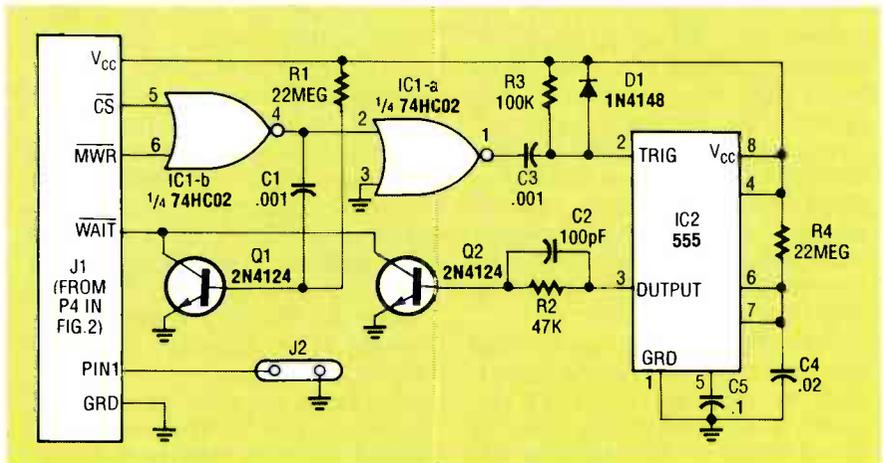
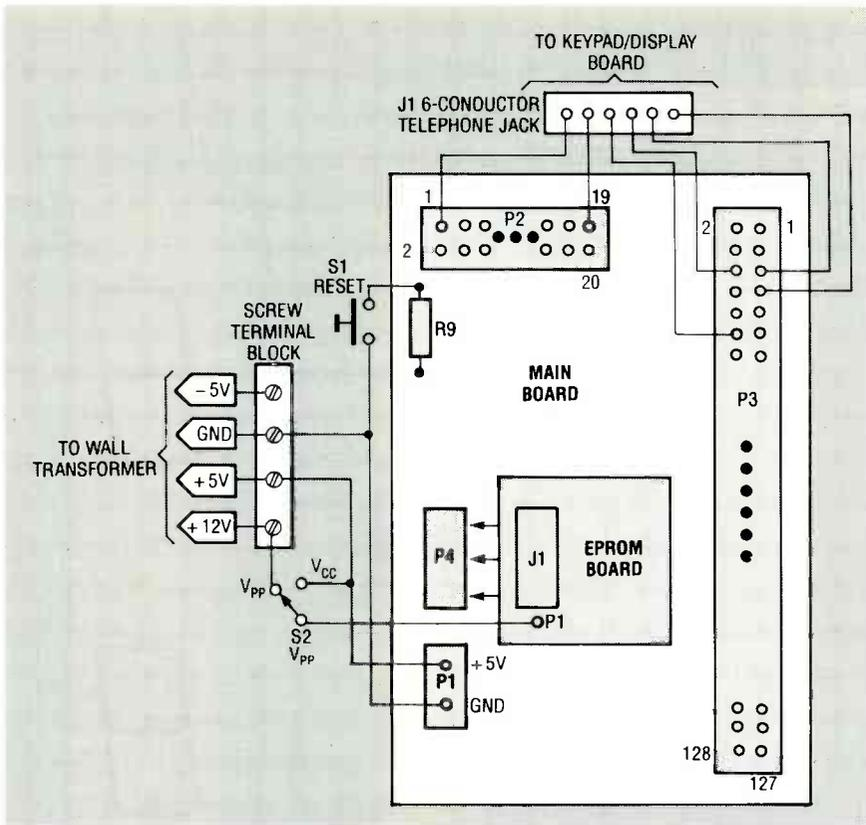

FIG. 4—THE EPROM BOARD serves to increase memory write time by the delay specified by the 555, in this case 50 ms, just right for burning standard EPROM's.
FIG. 6—MAKE SUBASSEMBLY INTERCONNECTIONS as shown here. Next time we'll provide details on pinouts of all connectors.
**Note:** The following items are available from Dage Scientific, 6124 Baldwin St., Valley Springs, CA 95252 (209) 772-2076:
**FIG. 2—THE MEMORY DECODING PORTION OF THE CIRCUIT:** Note the different connections to pins 1 and pins 27 of IC19–IC22. Pins 1 of IC19, IC21, and IC22 are tied to  $V_{CC}$ . Pin 1 of IC20 (the EPROM programming socket) goes to P4, which routes it to the EPROM board (Fig. 4) and then to programming-voltage selector switch S2. Figure 6 details the wiring.
The circuit for the EPROM board appears in Fig. 4. When the  $\bar{CS}$  and  $\overline{MWR}$  signals go low, the 555's trigger input drops to ground, followed by the output (pin 3). The output remains low for a time period determined by R4 and C4, in this case, 50 ms. That signal pulls the 1802's  $\overline{WAIT}$
Figure 6 shows how the various subassemblies, connectors, and switches interconnect. Switch S2 applies either +5- or + $V_{PP}$  to the pad labeled P1 on the EPROM board, which in turn routes that voltage through to pin 1 of IC20 on the main board.